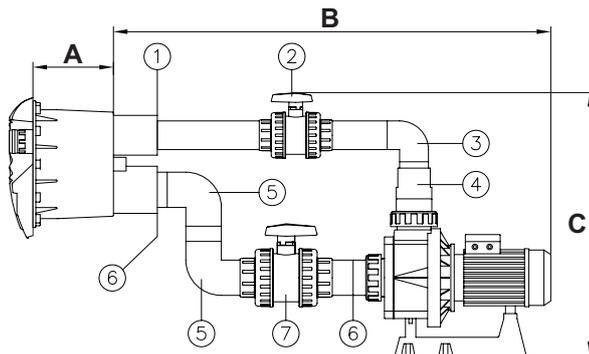

Fig. 6
- Glue the 75x63 mm. reducing bush (no.1, fig. 6) to the discharge mouth of the niche (see fig. 6).
- Glue a $\varnothing 63$ mm. pipe (*) in the reducing bush (no.1, fig. 6).
- Glue the $\varnothing 63$ mm. valve (no.2, fig. 6) to the $\varnothing 63$ mm. pipe (*).
- Glue a $\varnothing 63$ mm. pipe (*) to the $\varnothing 63$ mm. pipe (no.2, fig. 6).
- Glue the $\varnothing 63$ mm. elbow (no.3, fig. 6) to the $\varnothing 63$ mm. pipe (*).
- Glue a $\varnothing 63$ mm. pipe (*) to the elbow (no.3, fig.6).
- Glue a 90/75/63 mm. conical reducer (no.4, fig. 6) to the $\varnothing 63$ mm. pipe (*) and the $\varnothing 90$ mm. connector on the pump.
- Glue the 90x75 mm. reducing bush (no.6, fig. 6) in the suction mouth of the niche (see fig. 6).
- Using a $\varnothing 75$ mm. pipe (*), glue a $\varnothing 75$ mm. elbow (no.5, fig. 6) on to the reducing bush (no.6, fig. 6).
- Using a $\varnothing 75$ mm. pipe (*) join the other $\varnothing 75$ mm. elbow (no.5, fig. 6) to the elbow already glued (see fig. 6).
- Glue the $\varnothing 75$ mm. valve (no.7, fig. 6) to the elbow (no.5, fig. 6) using a $\varnothing 75$ mm. pipe (*) to join them.
- Glue a $\varnothing 75$ mm. pipe (*) to the valve (no.7, fig. 6).
- Glue a 90x75 mm. reducing bush (no.6, fig. 6) to the $\varnothing 75$ mm. pipe (*) and the $\varnothing 90$ mm. connector on the pump.